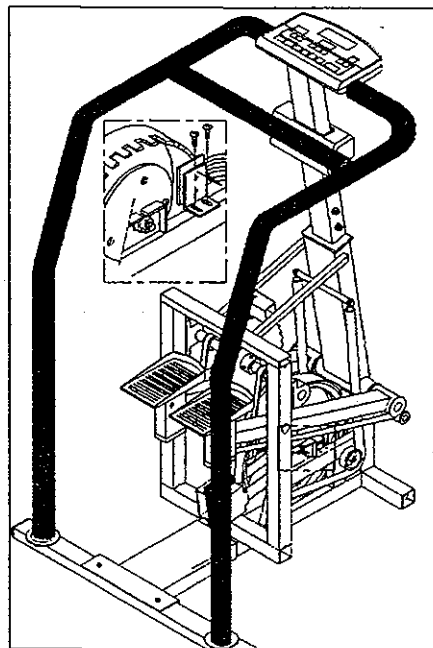

Fig. 9
8. Unscrew the two screws securing the optical switch (see Fig. 9) and remove.